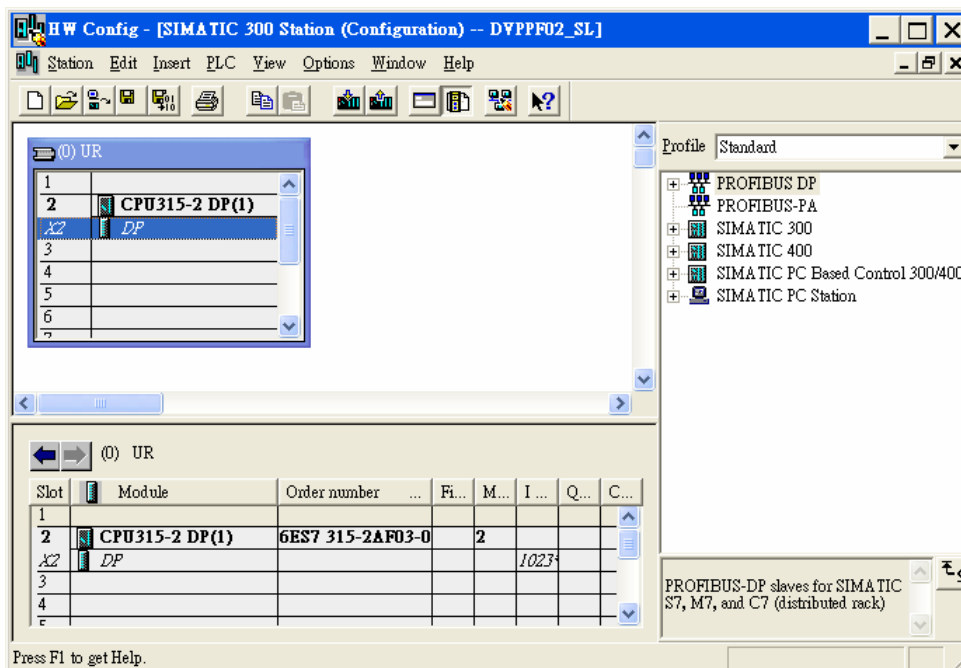

Figure 10-10
2. In the HW Config window, double click “DP” in the (0)UR window, as Figure 10-10, and a new dialog box will appear.